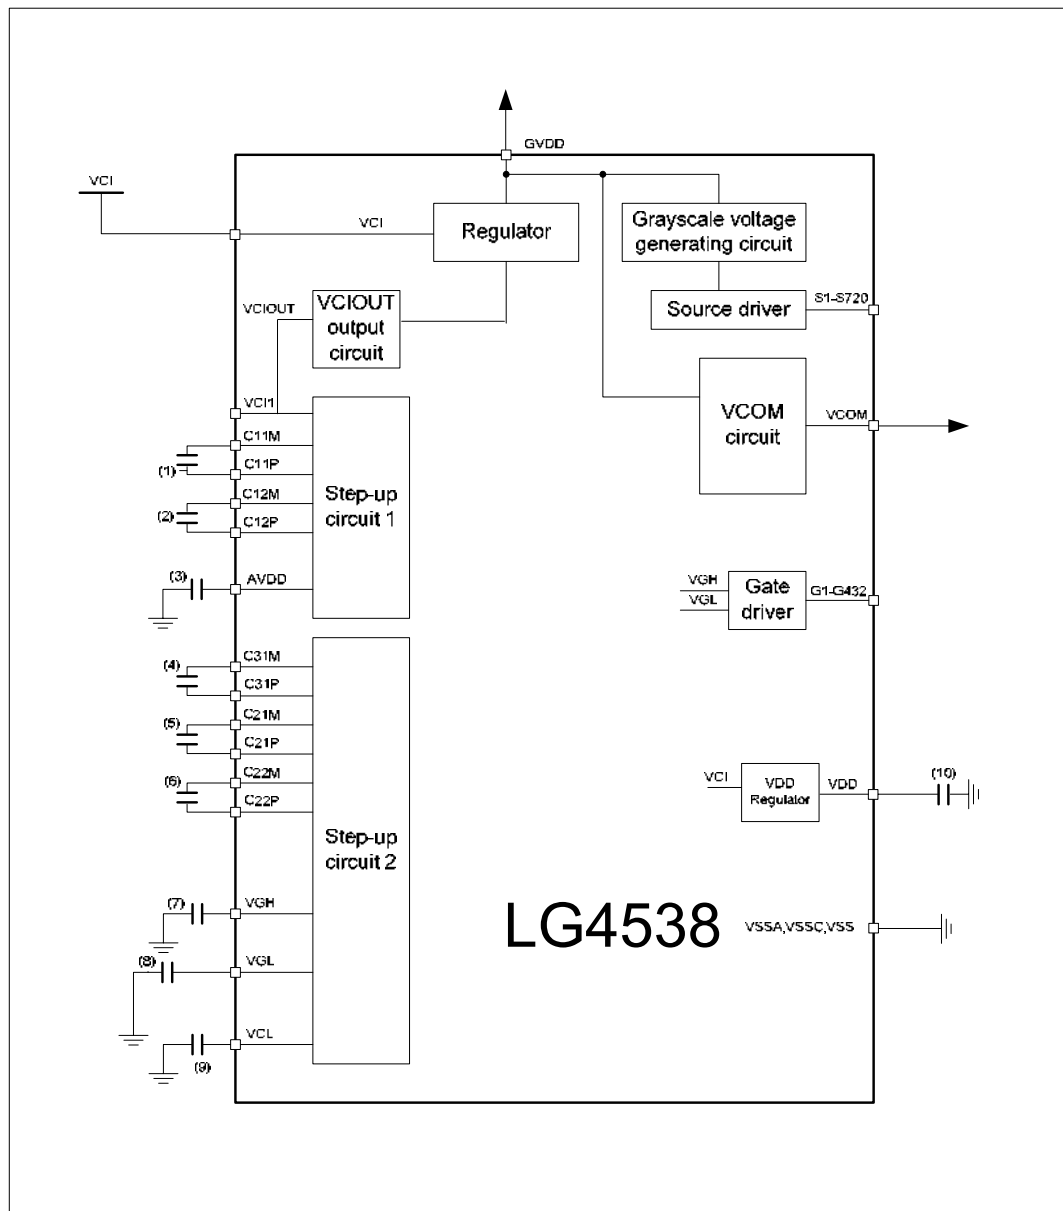
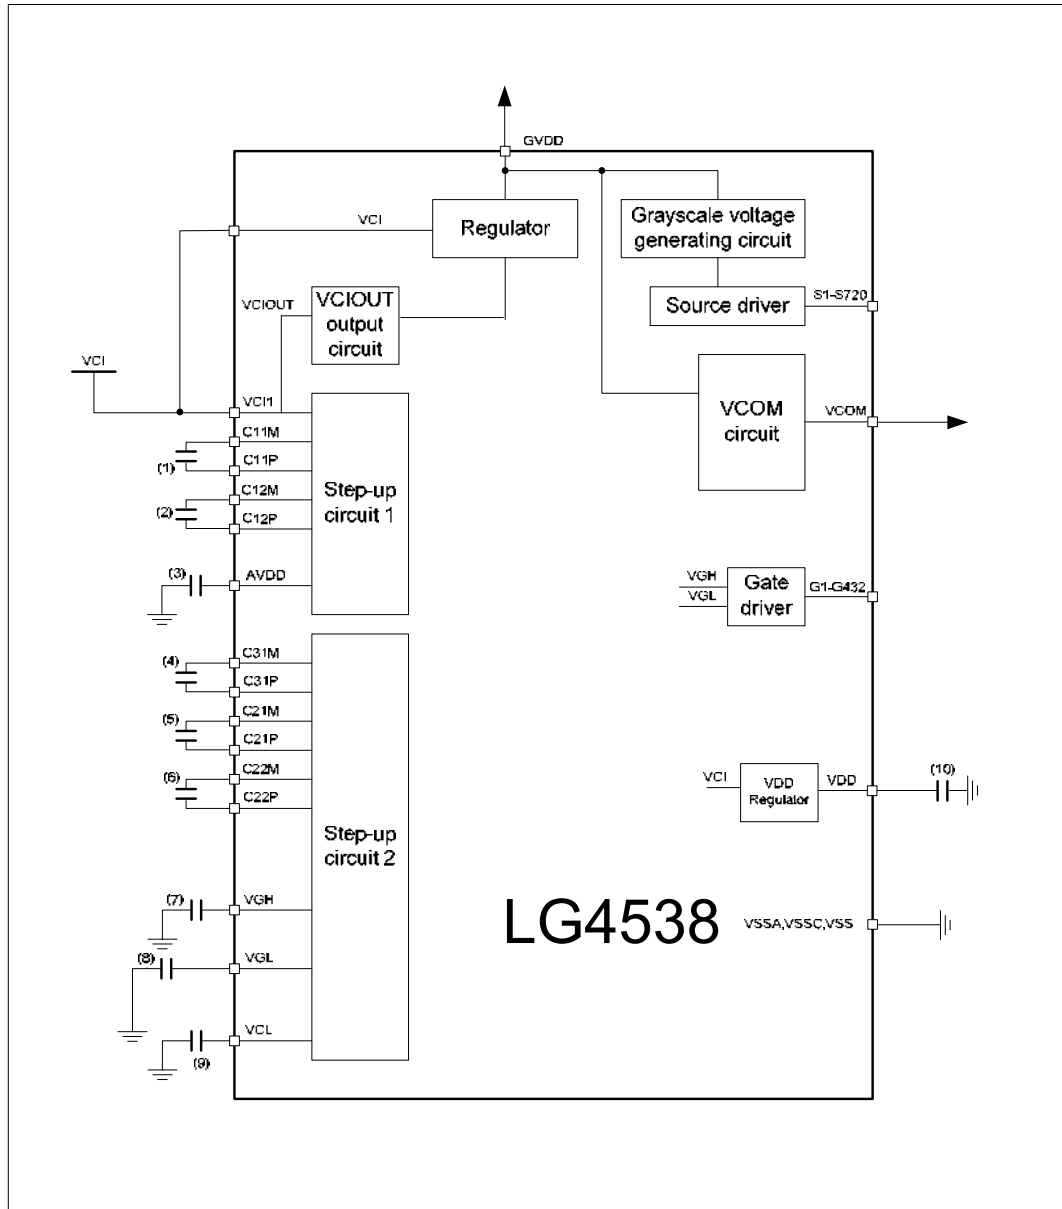

Figure 78
Figure 79
2. The numbers in the parentheses corresponds to the numbers of the elements in Figure 78, Figure 79.
Table 32 See Figure 78 (Condition: VDD3 = 1.65 to 3.30V, VCI = 2.50 to 3.30V)
Table 33 See Figure 78 (Condition: VDD3 = 1.65 to 3.30V, VCI = 2.50 to 3.30V)
Table 34 See Figure 78 (Condition: VDD3 = 1.65 to 3.30V, VCI = 2.50 to 3.30V)